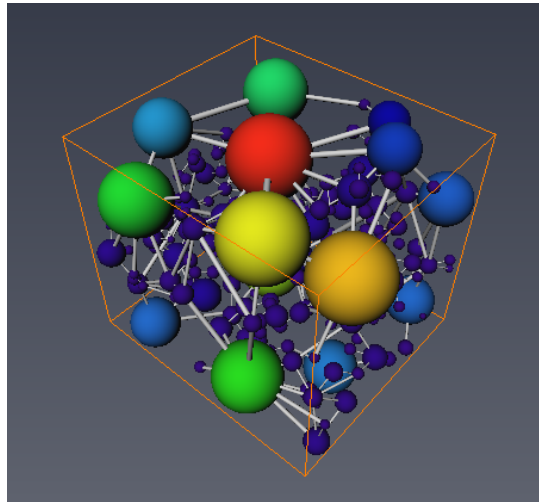

Figure 17.11: Pore Network Model View
2. Create a *Pore Network Model View* on the new network and hide the *Volume Rendering* module linked to the separated data. You can now visualize the network in the original data (see Figures 17.11, 17.12, and 17.13).